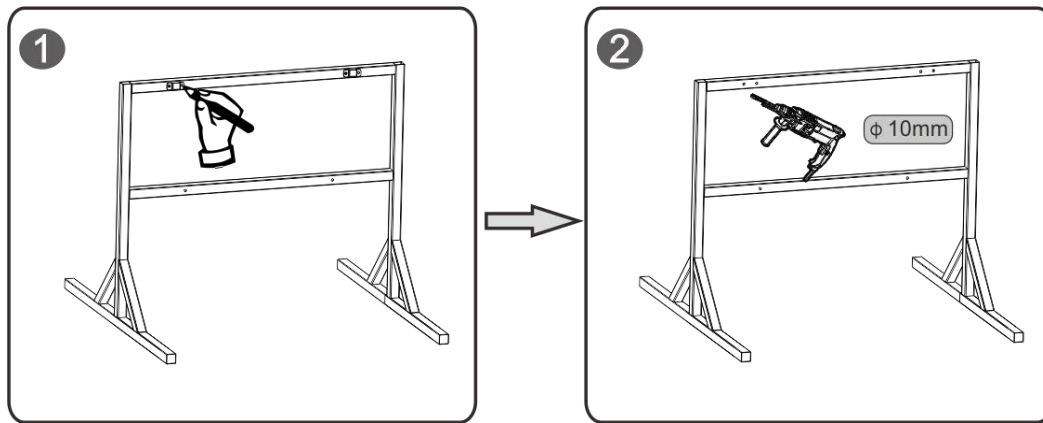

Figure 2-7 Schematic diagram of backplane of the inverter
Figure 2-7 shows the installation process of the mounting ears of the inverter. Take the mounting ears (or according to the dimensions of the mounting ears), measure the positions of the mounting holes on the bracket, and mark them with a marker. Install the mounting ears with M8\*60 bolts on the bracket, and hang the inverter on the mounting ears. Fix the left and right feet with M6 screws. At this moment, the installation is completed.
**Step 1** Determine the punching position according to the inverter installation dimensions drawing shown in Figure 2-7. Measure the dimensions using a level, and mark the puncturing area using a marker.